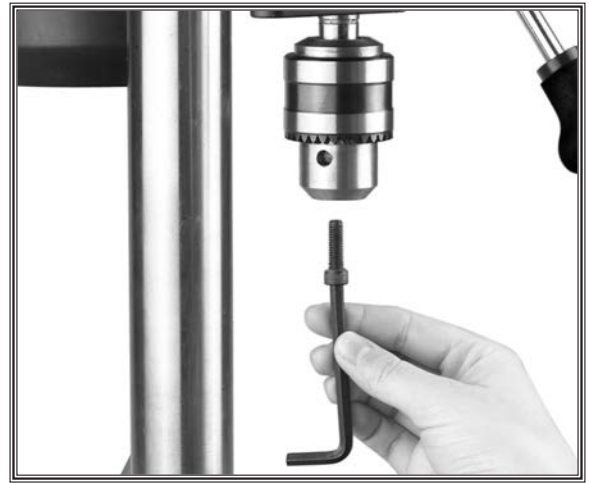

Figure 27. Inserting the hex cap screw (chuck guard removed for clarity).
25. Place the drill chuck on the spindle, and insert the cap screw into the hole of the drill chuck, as shown in **Figure 27**.